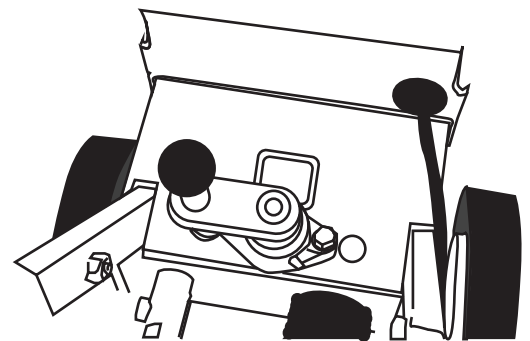

FIGURE 1
4.10 Check that the grinding plate is adjusted so that it sits level on the work surface (use the bubble-level on the machine as a reference in **FIGURE 1**).